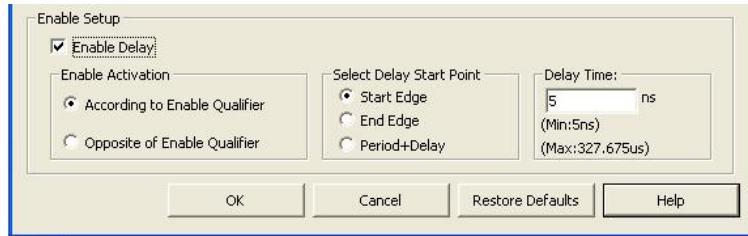

Fig 4-45 – Enable Delay
1. Click on the Enable Delay function as shown as Fig 4-45.